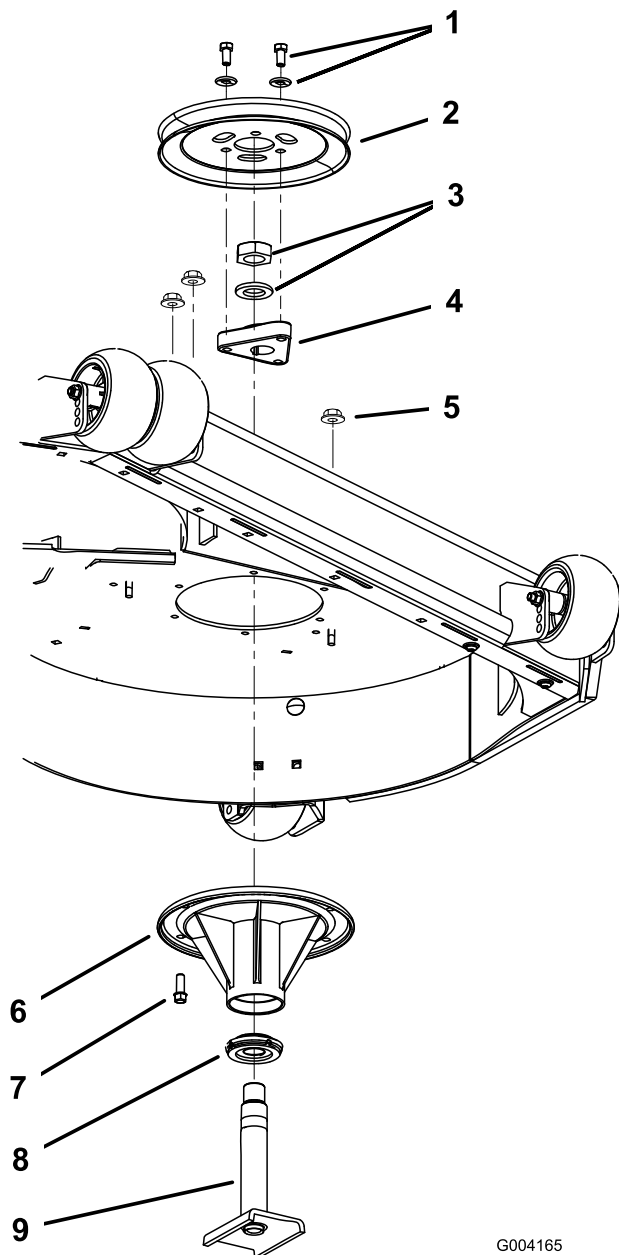

Figure 1
3. Remove the three bolts holding the deck pulley to the aluminum hub. Save the deck pulley and discard the bolts (Figure 1).
6. Remove the bolts holding the spindle to the mower deck. Save the nuts and bolts (Figure 1).